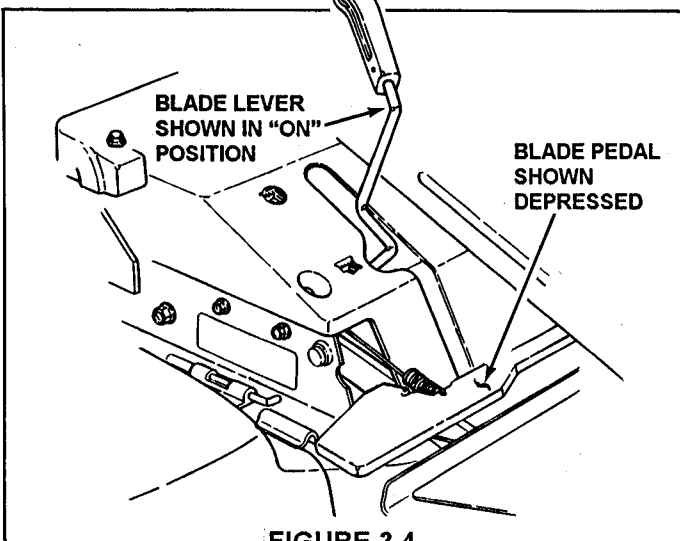

FIGURE 3.4
- On 25" models, with engine "OFF" and deck in 3rd height of cut position, move blade lever up and over to the "ON" position and depress blade pedals. See Figure 3.4.